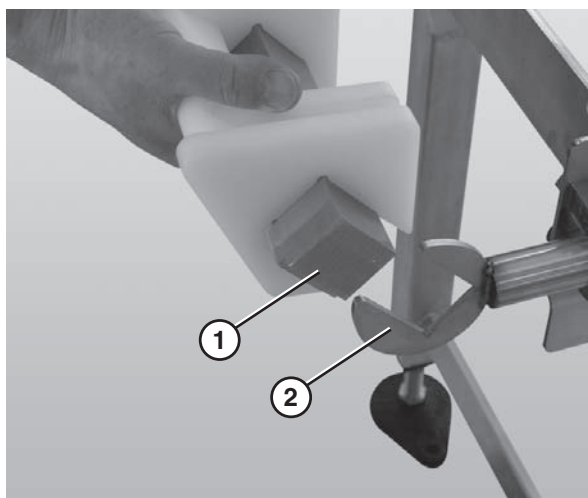

Figure 14
- Attach the nose bar transfer post (**Figure 14, item 1**) to the nose bar idler shaft hands (**Figure 14, item 2**).